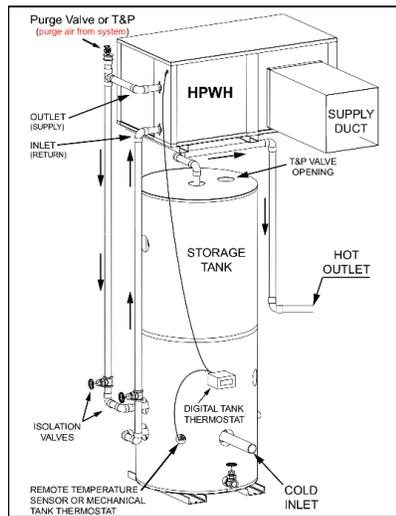
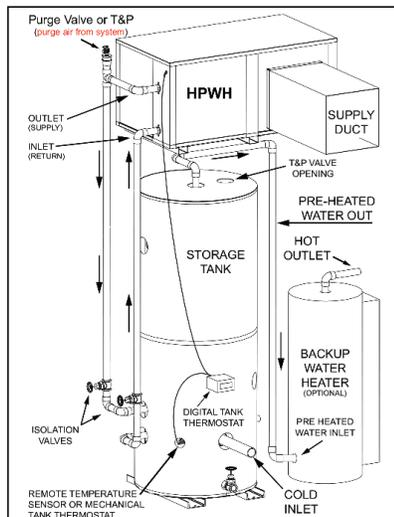

FIGURE 7
FIGURE 8
Water piping must be installed in accordance with the instructions in this manual and all local plumbing codes having jurisdiction. See Figure 7 and Figure 8 on page 16 and the Piping Diagrams on page 30 as a reference for these instructions.
4. The cold water supply must be connected directly to the storage tank at a low connection port on the storage tank on single tank and two tank preheat piping configurations for optimal efficiency. See Figure 7 and Figure 8 on page 16.
15. When the HPWH unit is installed above the storage tank install a Tee fitting at a high point in the outlet water line leaving the unit. Install a purge valve, or if required by local code, a T&P valve (temperature and pressure relief) in a branch of the Tee fitting that can be used to purge air from the HPWH unit during start up. See Figure 7 and Figure 8 on next page.
The HPWH must be plumbed to storage tank. The maximum stored water temperature the HPWH unit can produce in the storage tank is 150°F (66°C). Figure 7 shows a typical storage tank piping configuration. Tank ports must be large enough to handle the peak water flow rates through the water heating system. See Piping Diagrams on page 30 for detailed piping diagrams.
When water temperatures above 150°F (66°C) are required the HPWH and storage tank are piped in series (upstream) with a backup water heater. See Water Temperature on page 8. The backup water heater will raise the temperature of the preheated water to the final system temperature required. Figure 8 shows a typical preheat piping configuration.
8. Ensure the cold water supply is not connected directly to or Tee fitted to the inlet water line on the HPWH. See the Service and Installation Notes for Inlet & Outlet Water Temperature on page 8. See Figure 7 and Figure 8 on page 16.